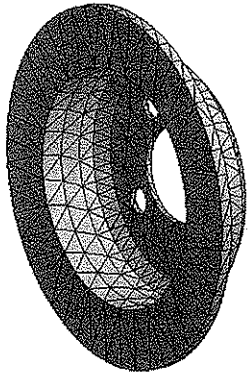

Figure 11-5 Mesh generated with the default settings
- 3. Choose the **Generate Mesh** option from the shortcut menu; the mesh with default settings is generated, refer to Figure 11-5.